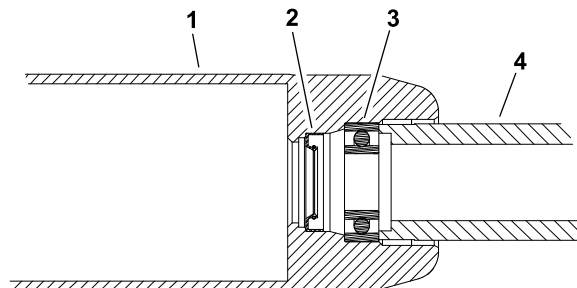

Figure 191
- A. Position a new bearing into one end of roller tube. Use bearing/outer seal tool (refer to Special Tools \(page 2–13\)) with a soft face hammer to fully seat bearing against roller shoulder (Figure 191). After bearing installation, make sure that it rotates freely with no binding.